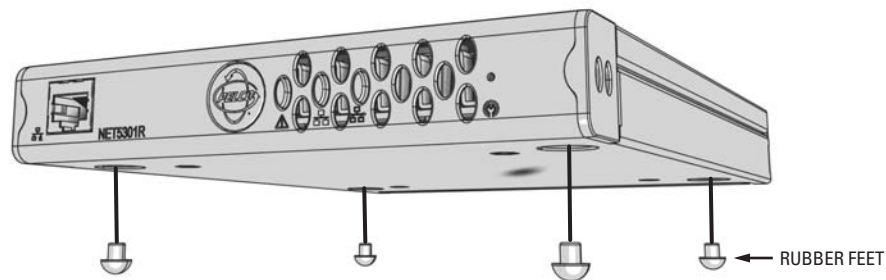

Figure 5. Installing Rubber Feet for Desktop Placement
1. Attach the rubber feet to the bottom of the unit to prevent surface damage (refer to Figure 5).